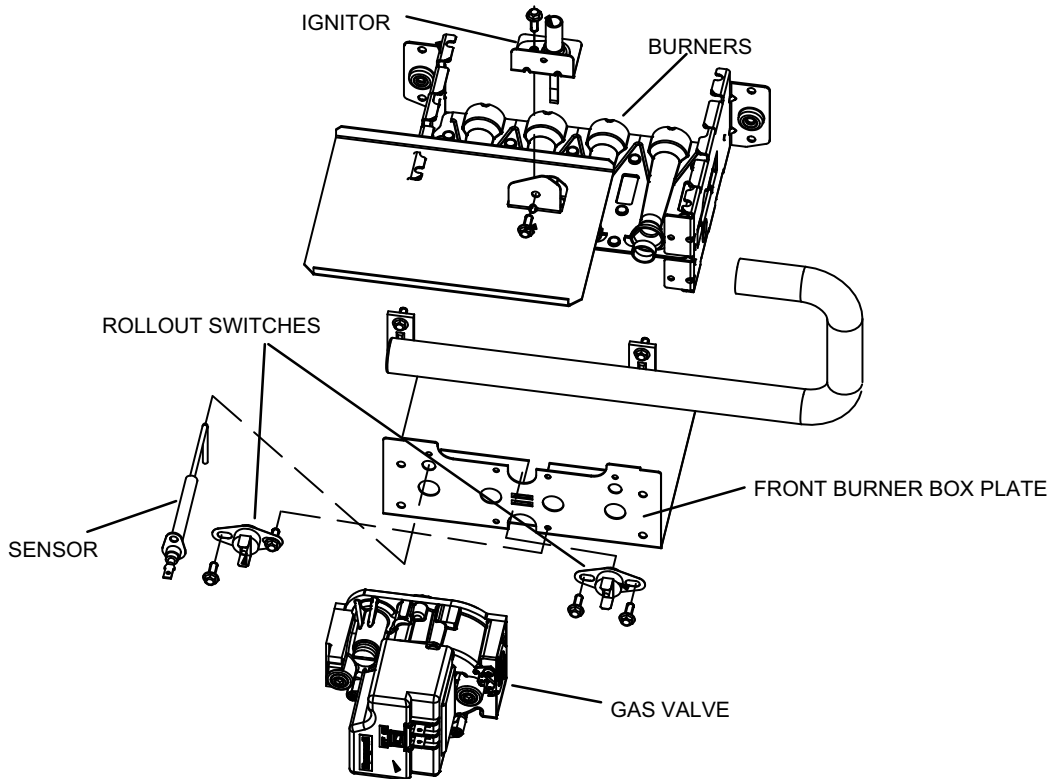

FIGURE 10
The hot surface ignition control system consisting of an integrated control (figure 6 with control terminal designations in tables 4 and 5), flame sensor and ignitor (figure 10). The integrated control and ignitor work in combination to ensure furnace ignition and ignitor durability. The integrated control, controls all major furnace operations. The integrated control also features a RED LED for troubleshooting and two accessory terminals rated at (1) one amp. See table 6 for troubleshooting diagnostic codes. The 120 volt ignitor is made from a high strength, silicon nitride material that provides long life and trouble free maintenance.
1. Flame Rollout Switches (Figure 10)
6. Flame Sensor (Figure 10)
7. Ignitor (Figure 10)